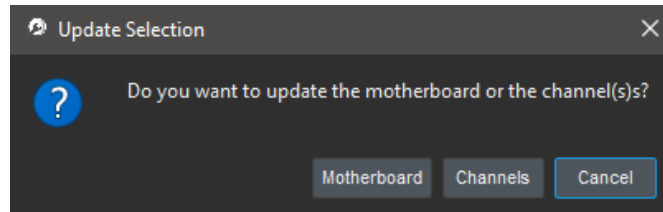

Figure 2.15: *Doric Maintenance Tool Update Selection*
7. A window ask you to choose between **Motherboard** or **Channels** to update (if you need to update both, select one of the both and repeat the process after the end of the first update) (Fig. 2.15).